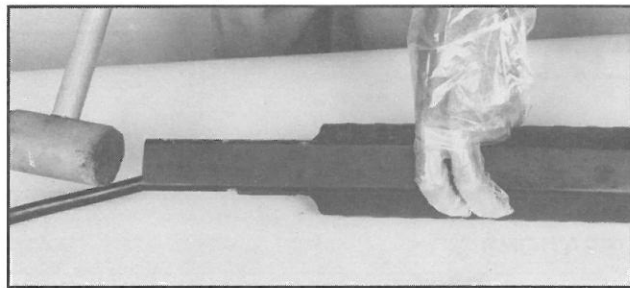
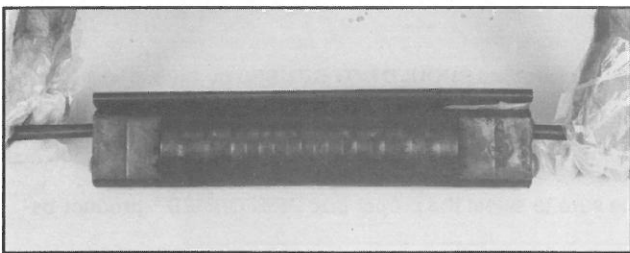

FIGURE 7 - TAP CLOSING CLAMP WITH Mallet
FIGURE 8- COMPLETED APPLICATION
- 3.10** Tap the closing clamp slowly with a mallet or hammer to allow the excess POLY-BEE™ Sealant to extrude from the Closure. (Figure 7) Continue tapping until fully closed. (Figure 8)
4.10 Tap the closing clamp slowly with a mallet or hammer to allow the excess POLY-BEE™ Sealant to extrude from the Closure. (Figure 7) Continue tapping until fully closed.